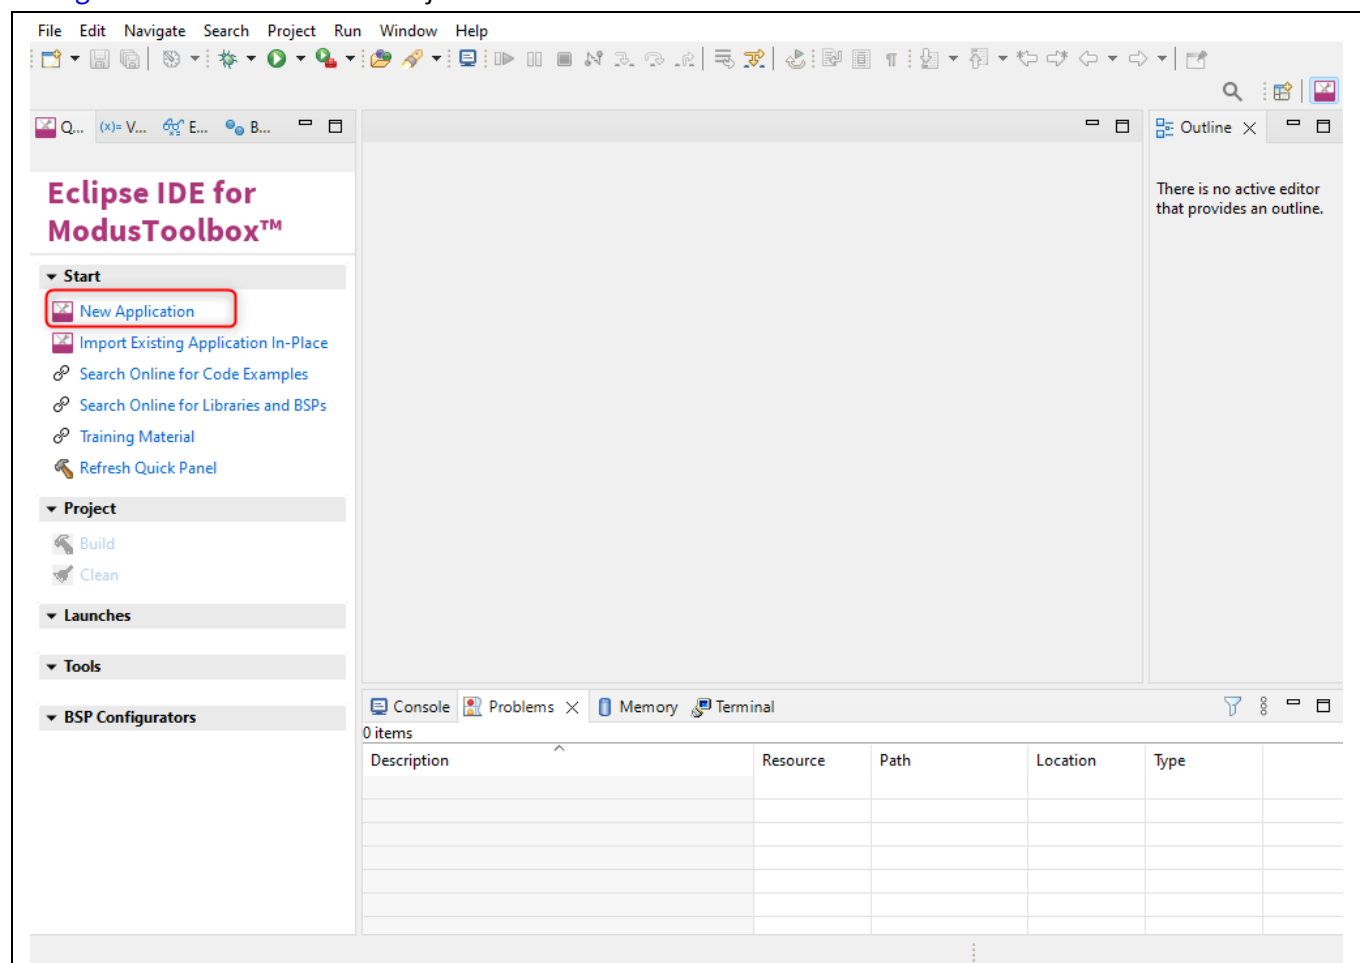

Figure 3 Creating New Application
2. Click **New Application** in the **Quick Panel** (or use **File > New > ModusToolbox™ Application**), as shown in Figure 3. This launches the Project Creator tool